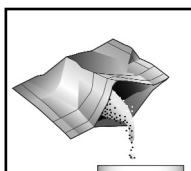

Figure 1
2. Empty the contents of one Zinc Foil Pack into the **reaction tube** (fig. 1). Cap the reaction tube and shake it vigorously for **exactly 3 minutes**.